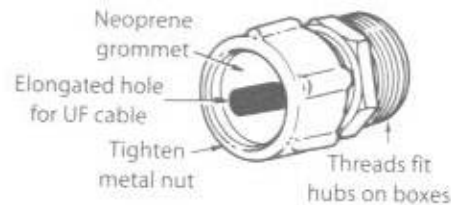

Fig. 17-10 Watertight connector for cable entry into threaded hub.
**Boxes for outdoor switches and receptacles** Boxes for installing outdoor receptacles are made with a variety of threaded-hub arrangements instead of knockouts. The boxes have letter designations for the different numbers and locations of the hubs. Examples are Type FS with one hub at the top and Type FSC with a hub at the top and another at the bottom of the box. Ordinary 15-amp or 20-amp toggle switches or GFCI-protected receptacles up to 50 amps may be installed in the boxes, using the proper weatherproof (gasketed) cover. If using Type UF cable outdoors, use a weatherproof connector similar to that shown in Fig. 17-10, and be sure the cable is marked SUNLIGHT RESISTANT.
Use molded plastic boxes as shown on the left in Fig. 9-18, with close-fitting gasketed covers. Type NMC or UF cables must be supported within 8 inches of boxes, and must have water- and dust-tight entries. Use a threaded compression watertight connector similar to that shown in Fig. 17-10, making sure the opening in the neoprene grommet is the right size for your cable. Rigid nonmetallic (PVC) conduit is well-suited to the conditions of dust, moisture, and corrosive vapors. Rigid metal conduit, intermediate metal conduit, or EMT may be used as the wiring method where only dust and/or moisture is present, but are not recommended where corrosive vapors are present.